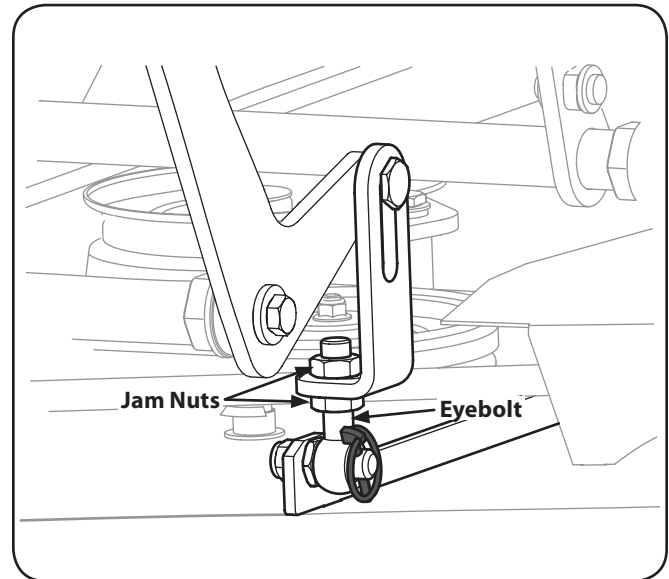

Figure 6-5
3. Adjust the eyebolt at the left front of the deck so that the blade-to-ground height at the right outside blade tip matches that of the left outside blade tip. This is done by loosening the jam nuts on the eyebolt and tightening the upper nut to raise the deck and loosening the nut to lower the deck. The right outer blade tip height is fixed by the right, front eyebolt so you must adjust the left outer tip to match it. See Figure 6-5.
3. Loosen the jam nuts at the rear left and right of the deck eyebolts. Refer to Figure 6-5.